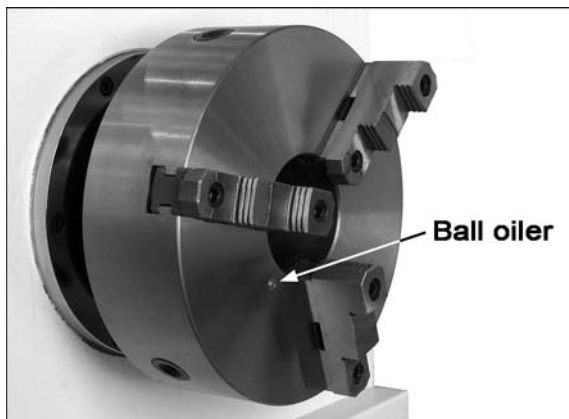

Figure 8 – Chuck lubrication
1. **Chuck** – In addition to the lubrication already described under *Chuck Preparation*, daily lubricate the chuck with SAE 20W oil through the ball oiler, shown in Figure 8.